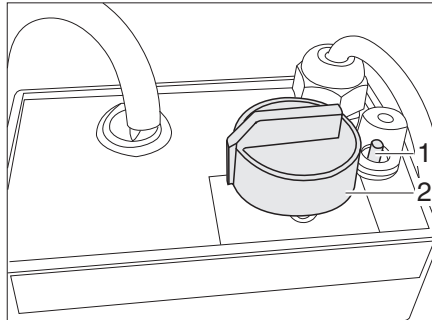

Fig. 118 Regulator for electrical floor warming unit
- Turn the control knob (Fig. 118,2) to the desired heating level.
- Turn the control knob (Fig. 118,2) to the setting "0".
If the regulator is overloaded, the overload protection is actuated. The pin (Fig. 118,1) will trip.
- Press in the pin (Fig. 118,1) at the overload protection when the regulator has cooled down.